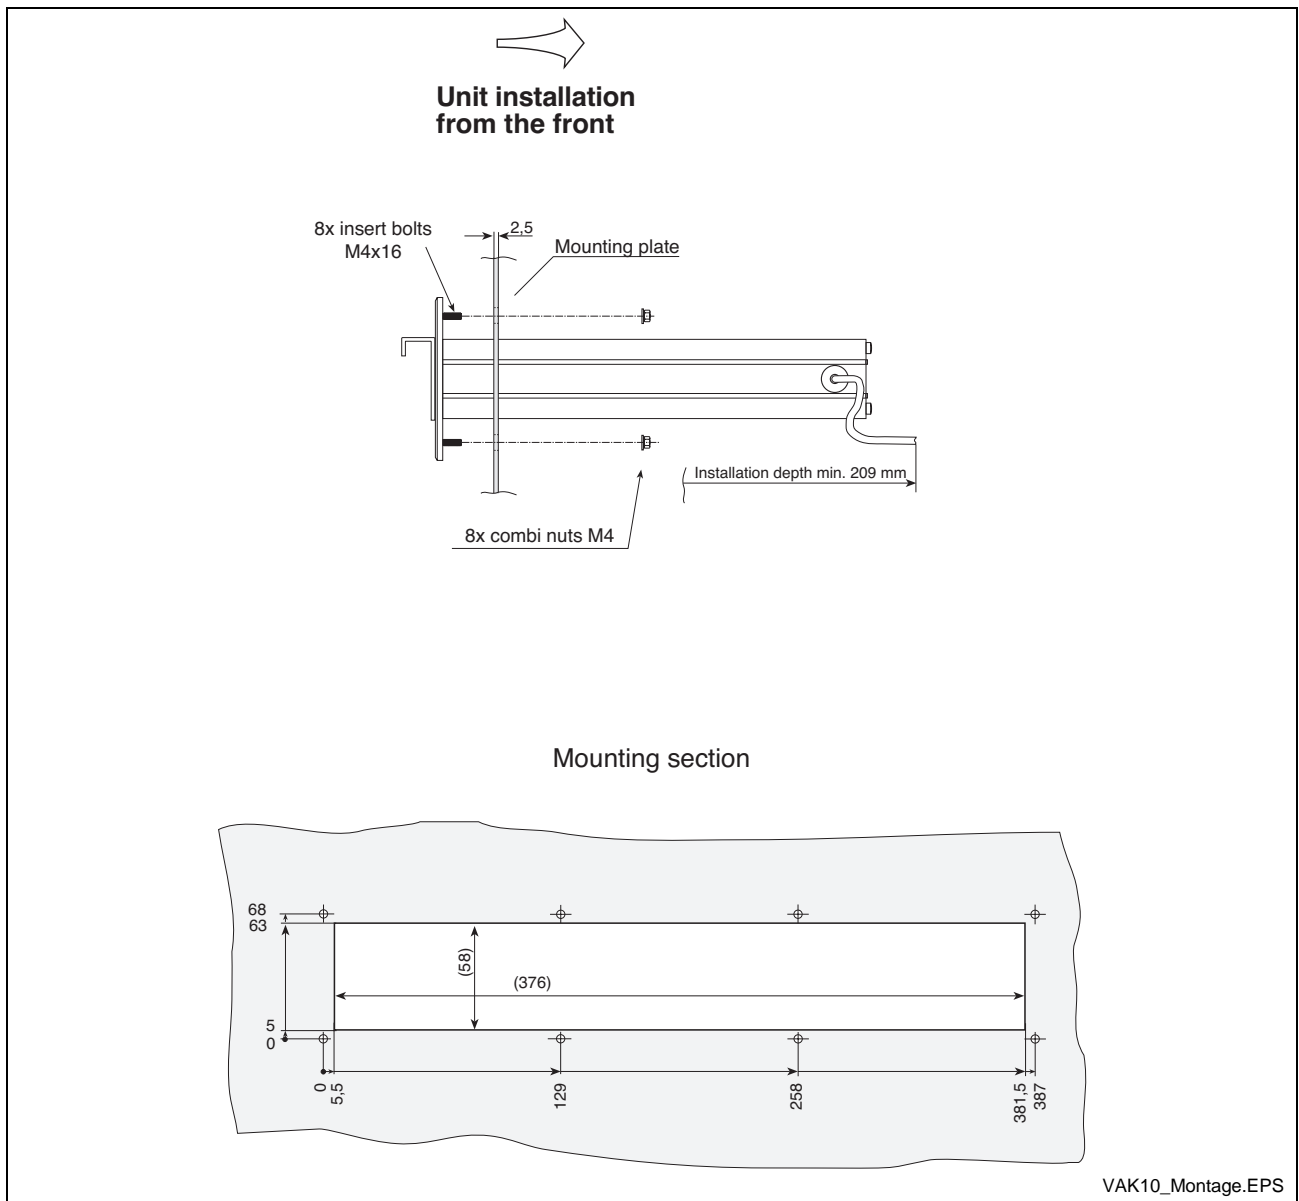

Fig. 7-4: Mounting dimensions VAK 10.1
- Fig. 7-4: Mounting dimensions VAK 10.1 7-4